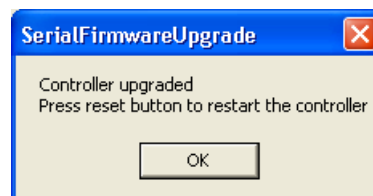

Figure 48. The Serial Firmware Upgrade window.
6. Select Firmware version¹ from the drop-down menu and click **Upgrade**. File transmission starts to the controller. This operation may takes a few minutes. A confirmation window opens when the controller is upgraded, see Figure 48.